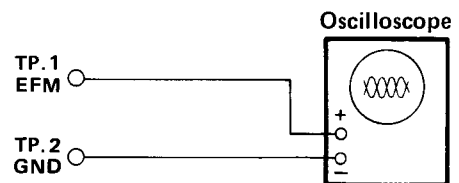

Fig. 26
- [1] Connect the oscilloscope to TP.1 (EFM) and TP.2 (GND). (Fig. 26)